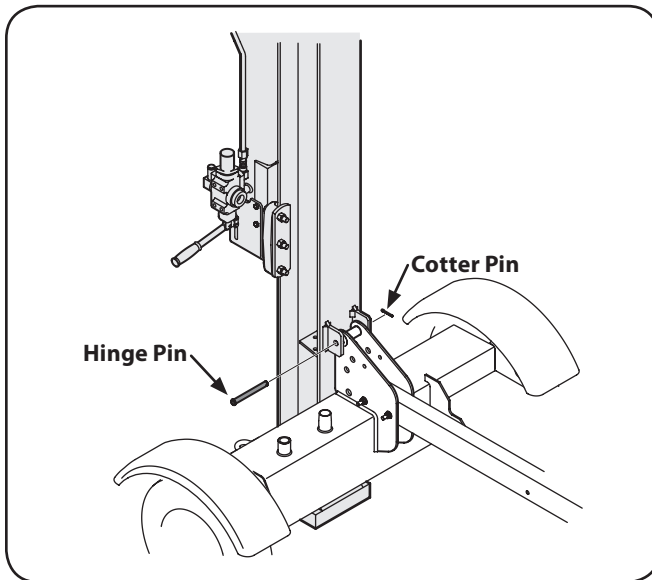

Figure 3-7
4. Insert the hinge pin just removed through brackets on beam and reservoir tank assembly. Secure with the cotter pin by bending the ends of the pin in opposite directions. See Fig. 3-7.